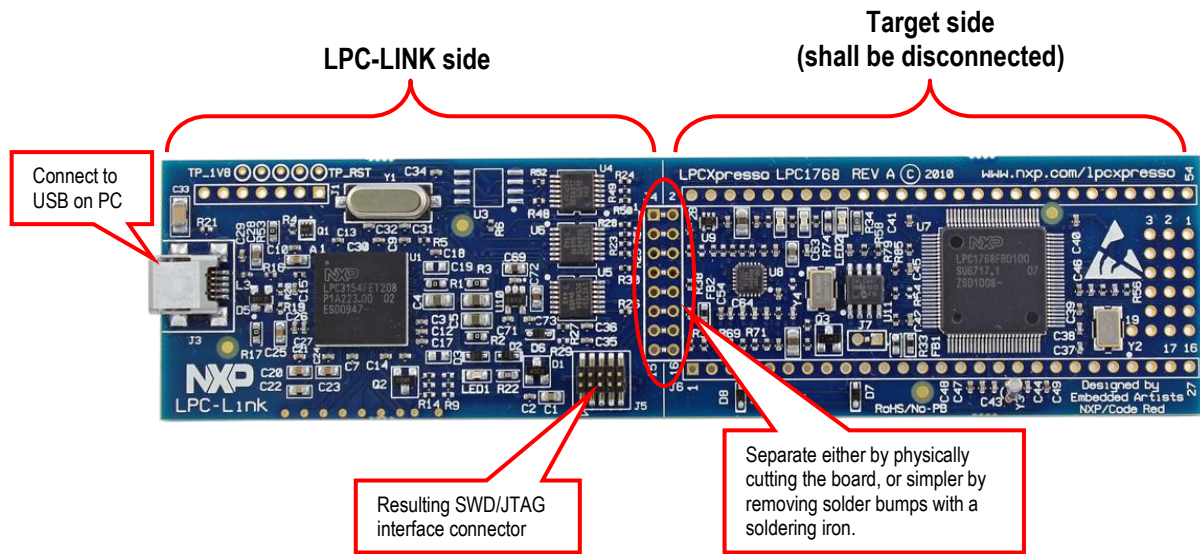

Figure 24 – Create an LPC-LINK
The first thing is to create an LPC-LINK, the SWD/JTAG interface that the LPCXpresso IDE uses. It is a relatively simple process. Start with an LPCXpresso LPC1769 board. Separate the LPC-LINK side from the target side either by physically cutting the board or by using a soldering iron and remove all solder bumps that form the connection between the two sides. See Figure 24 for an illustration. The reason why an LPCXpresso LPC1769 board is recommended is that not all LPCXpresso boards have the same connections between the two sides. The LPC1769 board is very simple to separate with a soldering iron.
2. Connect a USB cable between the LPC-LINK and the PC, see Figure 24 above. Connect the 10-pos SWD/JTAG cable between the LPC-LINK and the debug connector of the processor to be programmed (either the LPC1769 or the LPC11C24).